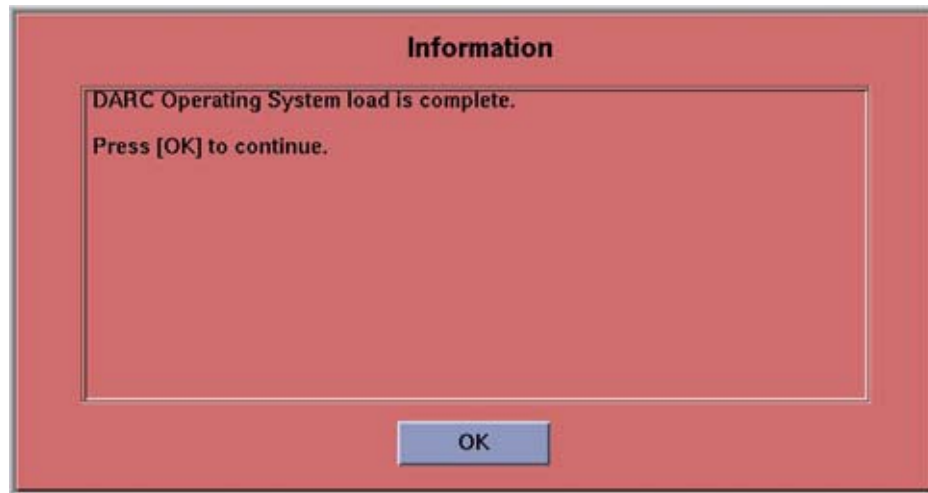

Figure 4-11 DARC OS Load Complete Pop-up Window
- 8.) The DARC OS 'Load Window' should disappear when the load has completed successfully. An information window should appear. See Figure 4-11.